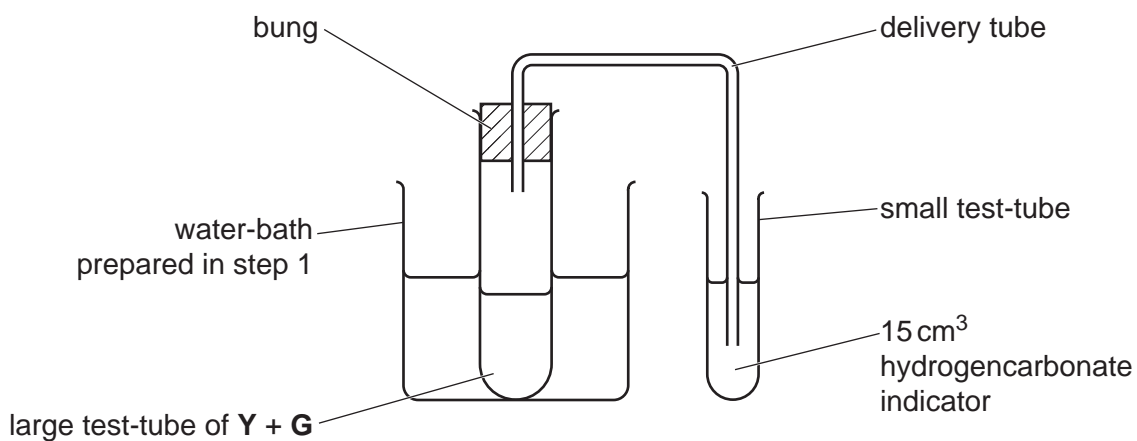

Fig. 1.2
step 4 Set up the apparatus as shown in Fig. 1.2.